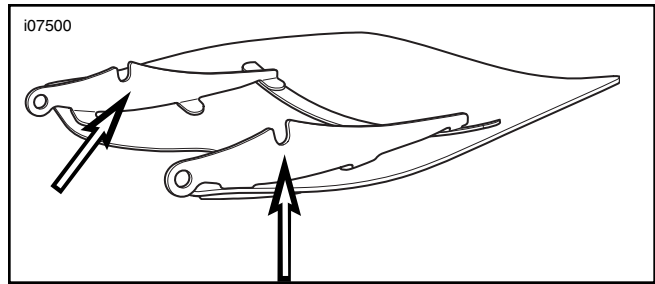

Figure 4. Windshield Mounting Brackets
- See Figure 4. Remove the windshield sub-assembly from the packaging and place face down on a clean, soft surface with the mount brackets facing upward.